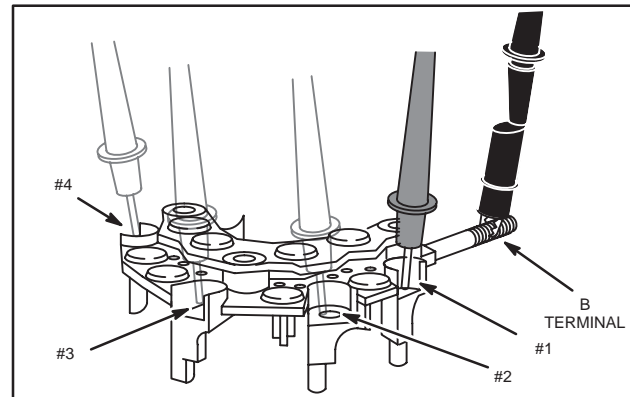

Fig. 34 – Check Rectifier
1. Attach BLACK meter test lead to "B" terminal, Fig. 34. Leave attached through Step 3.
2. Contact #1 terminal with RED meter test lead, Fig. 34.